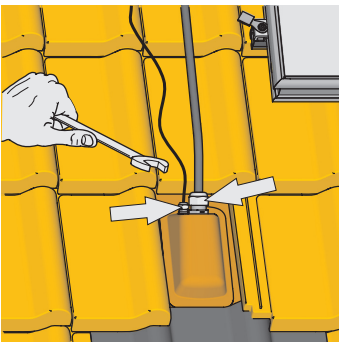

Fig. 3-32 Work step 10
10. Tighten the ring nuts of the glands for the pipes and cables (see Fig 3-32).